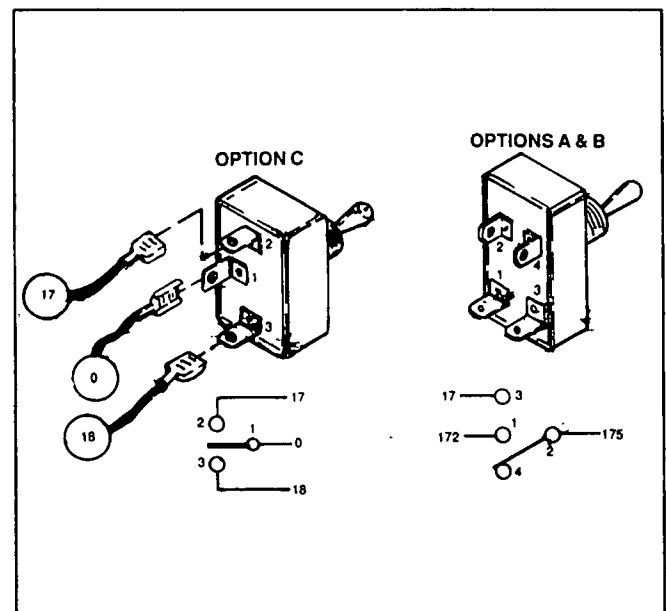

Figure 1. Start/Stop Switch Test Points
1. Disconnect all wires from the start/stop switch (Figure 1), to prevent interaction.